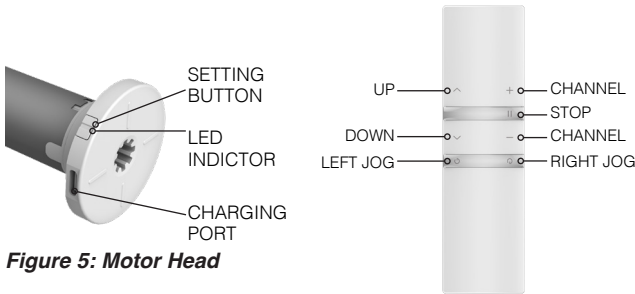

Figure 5: Motor Head
4. Check the motor by pressing the setting button on the motor head **[Figure 5]**.